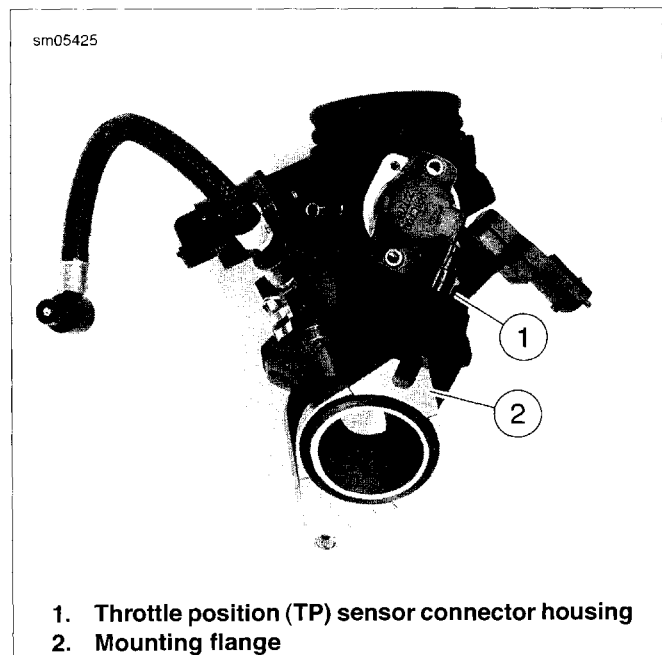

Figure 4-30. Throttle Position (TP) Sensor Installation (XR Models)
1. See Figure 4-30. Place sensor over throttle shaft with the connector housing (1) facing toward the mounting flange (2) as shown.